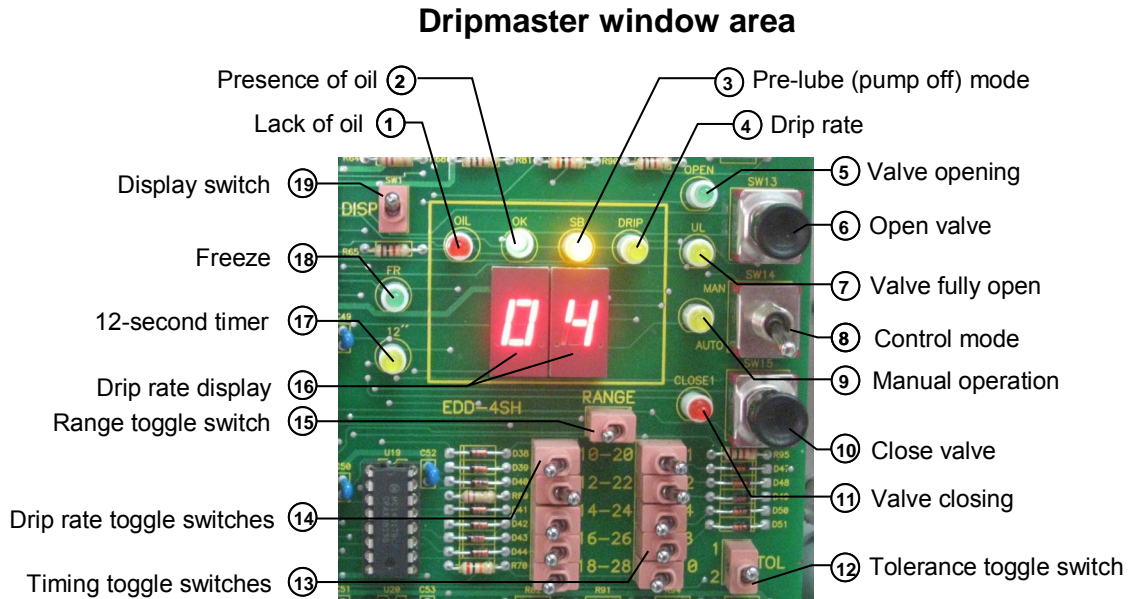

Figure 7: Dripmaster control panel
Make sure the Control Mode toggle switch SW14 is in the lower **AUTO** position (item 8 in Figure 7), so that the Dripmaster automatically stabilizes the preset drip rate. At the end of each 60 second interval, a short correction command is given only if there is a deviation from the desired preset drip rate.
During normal operation (when the well pump is operating), the drip rate is selectable for drip rates of 10, 12, 14, 16, 18, 20, 22, 24, 26, or 28 drips/minute (Figure 7).
The **OPEN** and **CLOSE** LEDs indicate whether the needle valve is opening or closing. See items 5 and 11 in Figure 7 on page 13.
Select the manual mode by switching the Mode toggle switch to the upper **MAN** position (Figure 7). This mode bypasses the electronic control circuitry, and allows the operator to modify the drip rate by using the Open Valve (manual) and Close Valve (manual) push buttons.
A two-digit display is visible in the Dripmaster display window (see Figure 7 on page 13)—this is a drip counter that freezes for six seconds for each one minute interval and indicates the number of drips applied during the previous minute (Freeze mode).